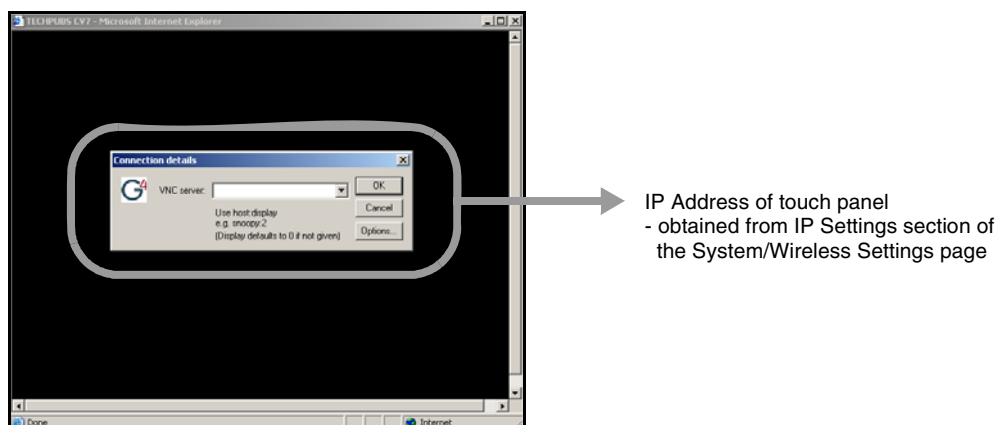

FIG. 76 Connection Details dialog
8. In some cases, you might get a *Connection Details* dialog (FIG. 76) requesting a VNC Server IP Address. This is the IP Address not the IP of the Master but of the target touch panel. Depending on which method of communication you are using, it can be found in either the: